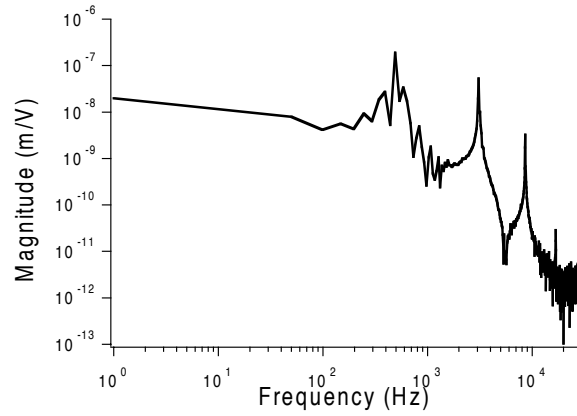

Figure 9: Frequency response of a piezoactuator
- (b) Figure 9 shows the frequency response function of a piezoelectric actuator that we made in our lab. The frequency response function roughly consists of a flat portion and a roll-off portion. In addition, the roll-off portion has several resonance peaks. Answer the following questions using Fig. 9.